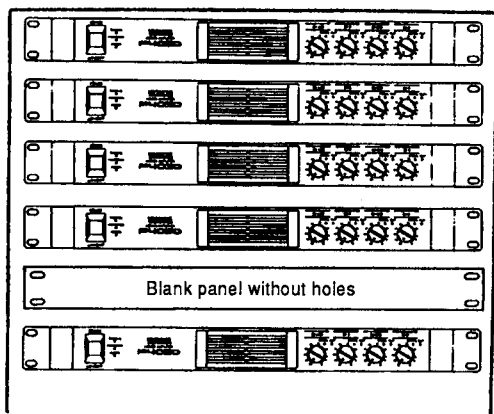

Fig. 1
- 1-1. When installing more than four P4050s, make sure to leave one 1U space every four units, and install a blank panel without any ventilation holes. (Fig. 1)